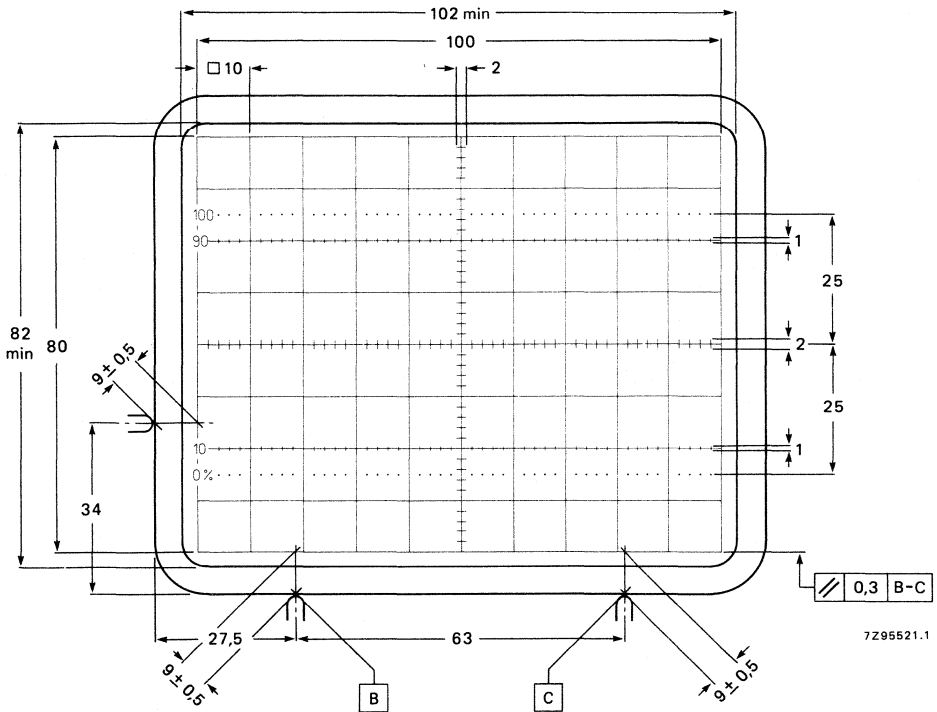

Fig. 5 Front view of tube with internal graticule, type 123. The faceplate reference points are used for aligning the graticule with the faceplate.
The tube can be mounted in any position. It must not be supported by the socket and not by the base region alone. The reference points on adjoining edges of the faceplate (see Fig. 5) enable the tube to be mounted accurately in the front panel, thus providing optimum alignment of the internal graticule.
4. Reference points on faceplate for graticule alignment (see Fig. 5).
1. As the frit seal is visible through the faceplate, and not necessarily aligned with the internal graticule, application of an external passe-partout with open area of max. 102 mm x 82 mm is recommended. The internal graticule is aligned with the faceplate by using the faceplate reference points (see Fig. 5).